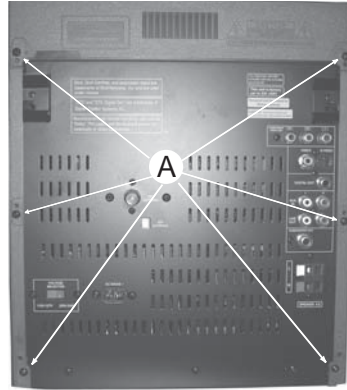

Figure 1
- 1) Loosen the 4 screws at top cover , 2 screws at slide Cover and 4 screws at back panel as Figure 1 & 2.